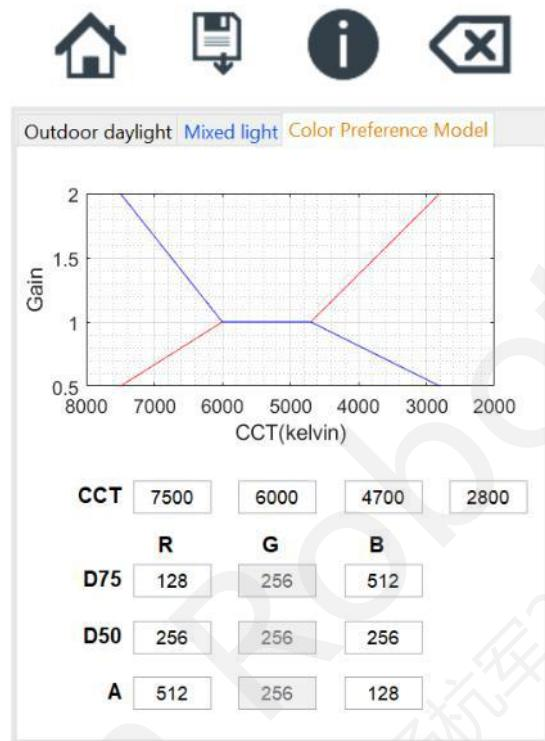

Figure 3.3-15 Color preference model tab
The plot in Figure 3.3-15 shows the how the parameters are used.
- Images with a measured CCT higher than the largest value (7500 in Figure 3.3-15) will be modified using the gain values listed on the D75 row.
- Images with a measured CCT between the middle values (4700 to 6000 in Figure 3.3-15) will be modified using the gain values listed on the D50 row.
- Images with a measured CCT lower than the final value (2800 in Figure 3.3-15) will be modified using the gain values listed on the A row.